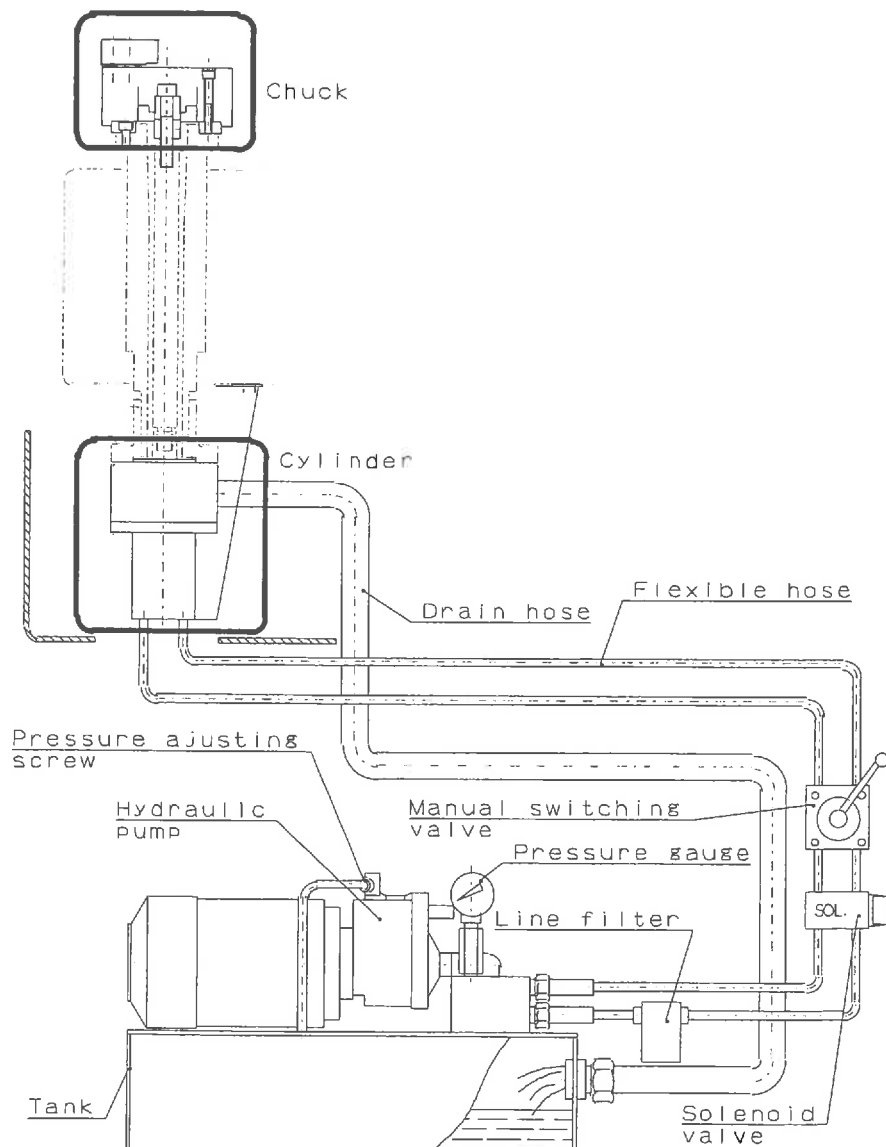

Fig.17
- The end of the hose is physically above the oil level. (Refer to Fig.17)